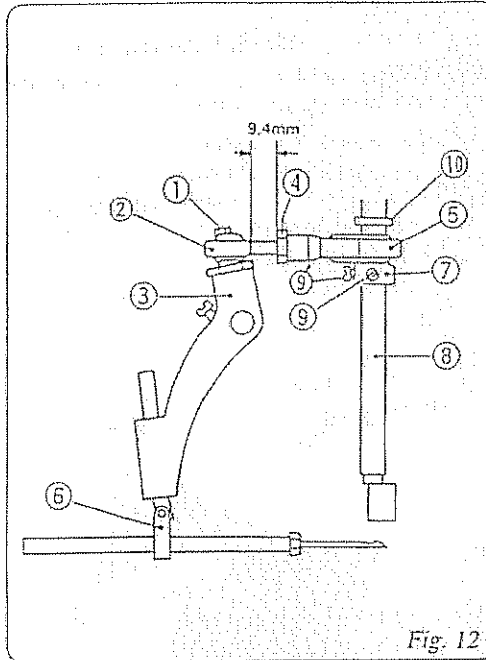

Fig. 12
For replacement or adjustment of Ball Rod, refer to Fig.12.
The position of Needle is adjusted so that the distance between the point of Needle (at its highest position) and Throat Plate is 13 mm, after loosening screw on Needle Bar Connection Assembly ⑥ in Fig.12.
① Screw 11/64S40089
② Rod End 6APOS8
③ Needle Bar Lever 242051A
④ Nut IN8
⑤ Connecting Rod Assembly 242011A
⑥ Needle Bar Connection Assembly 242101A
⑦ Eccentric Cam (part of Connecting Rod Assembly) 242011
⑧ Main Shaft 241101
⑨ ⑩ Screw 11/64S40031
⑩ Spacer 241151